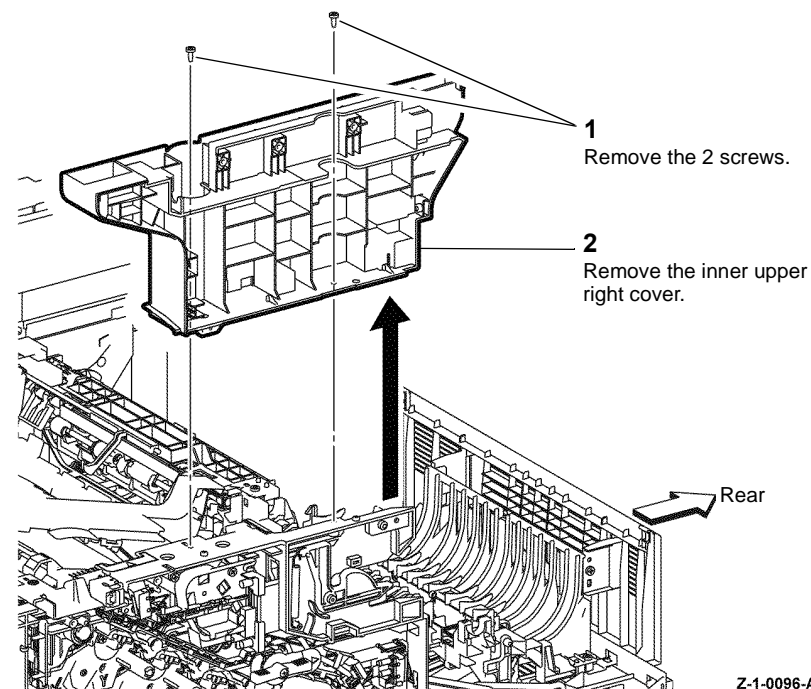

Figure 1 Inner upper right cover C405
3. Remove the right upper inner cover C405, Figure 1.